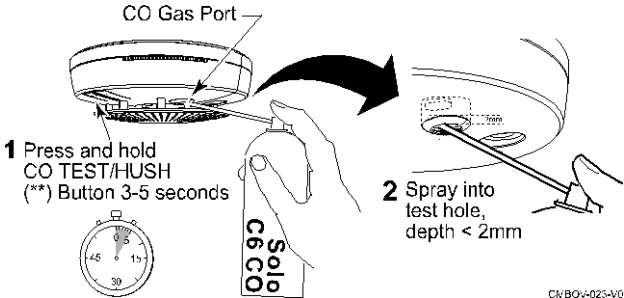

Figure 6. 5800CMBOV CO Functional Test
3. Spray a very small amount of Solo™ C6 canned CO directly into the gas test hole (Refer to Figure 6). Solo™ C6 is available through many security equipment vendors.
1. Depress and hold the SMOKE TEST/HUSH (*) button for approximately 3-5 full seconds. Refer to Figure 6.